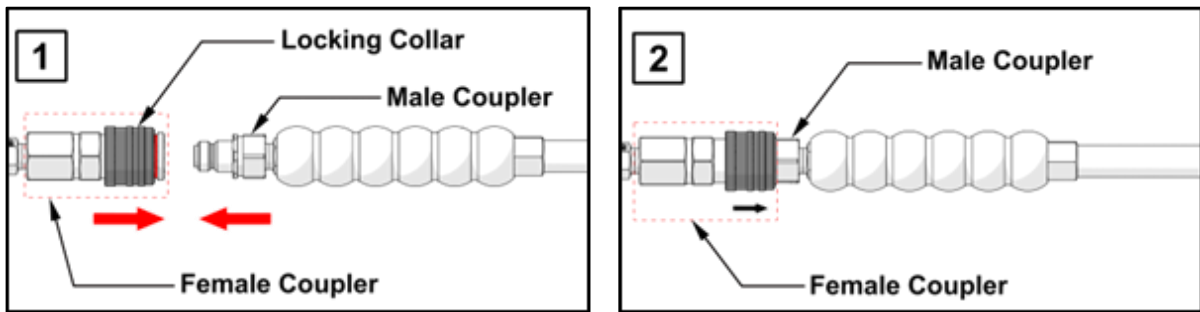

Figure 5.1: Hydraulic Connections
5.2.1 Connections (See figure 5.1)